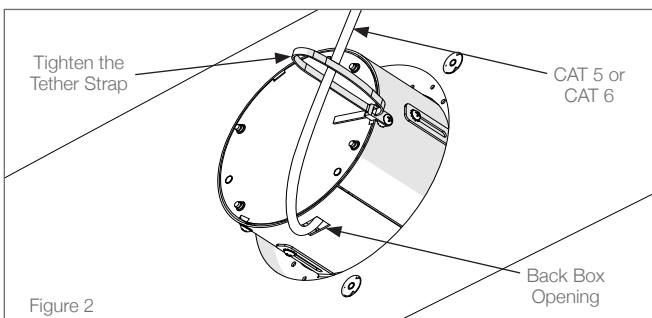

Figure 2
1. Once the mounting platform is in position, insert the CAT5/ CAT6 cable into the mounting platform back box opening from the bottom and secure it using the provided tether strap attached to the back box to prevent it from falling into the wall cavity. Make sure to insert the connector and enough slack to prevent it from falling out during mounting platform installation (see Figure 2).
3. Verify that the CAT5/6 is still in position within the mounting platform box (see Figure 2).